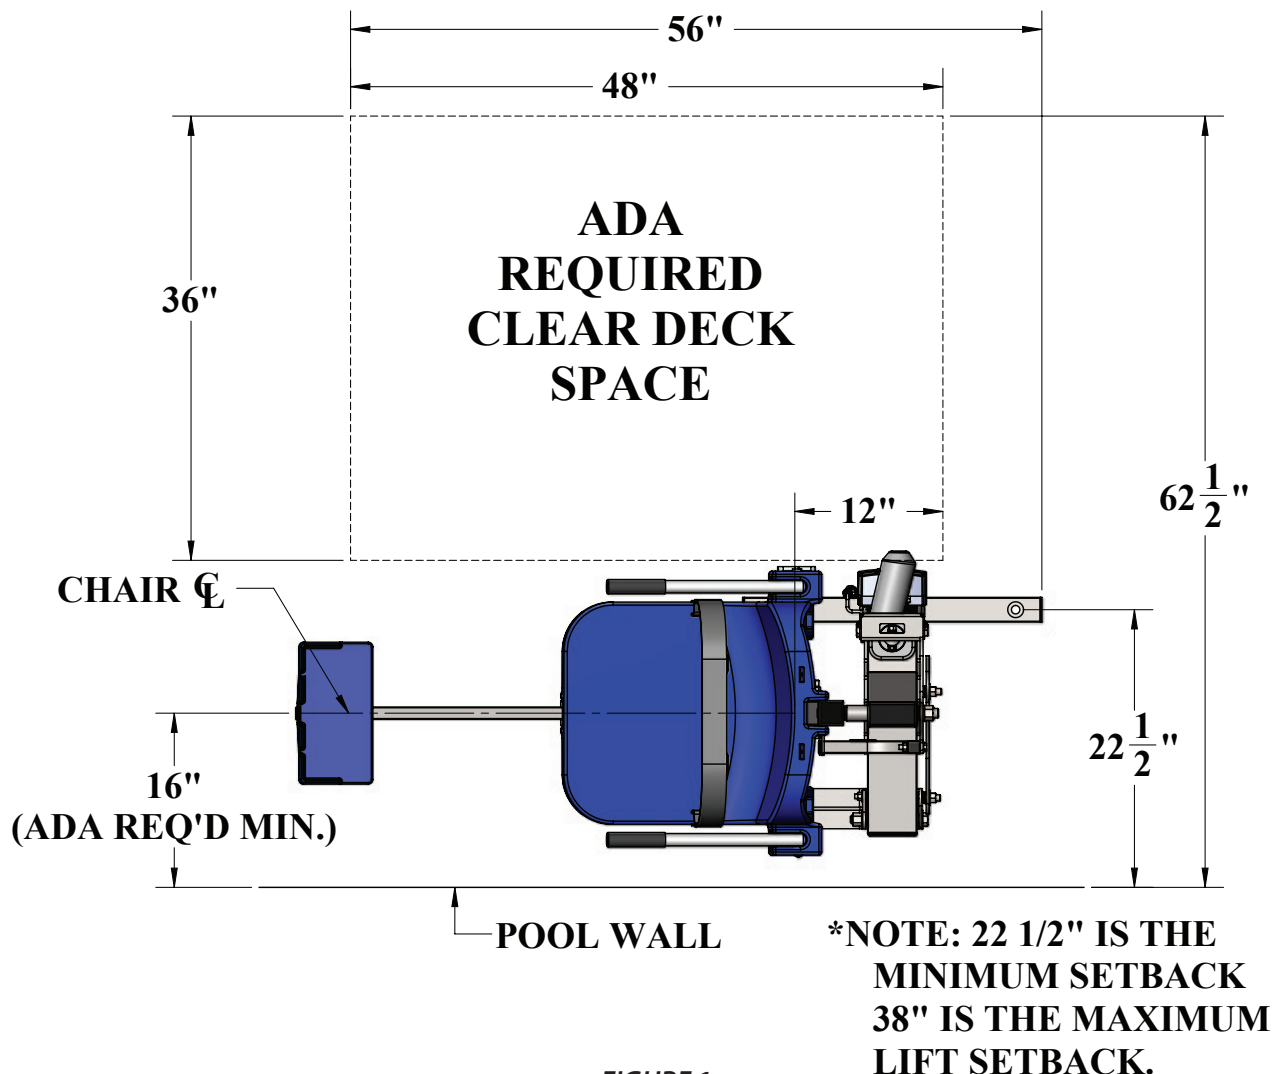

FIGURE 1
- Clear deck space dimensions (see FIGURE 1)
SEE FIGURE 1 ON PAGE 3